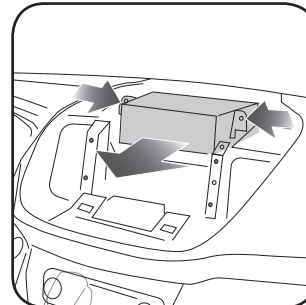

Fig. 1.5
5. Remove two (2) 7 mm screws securing the radio module. Unplug and remove the radio. (Fig. 1.5)